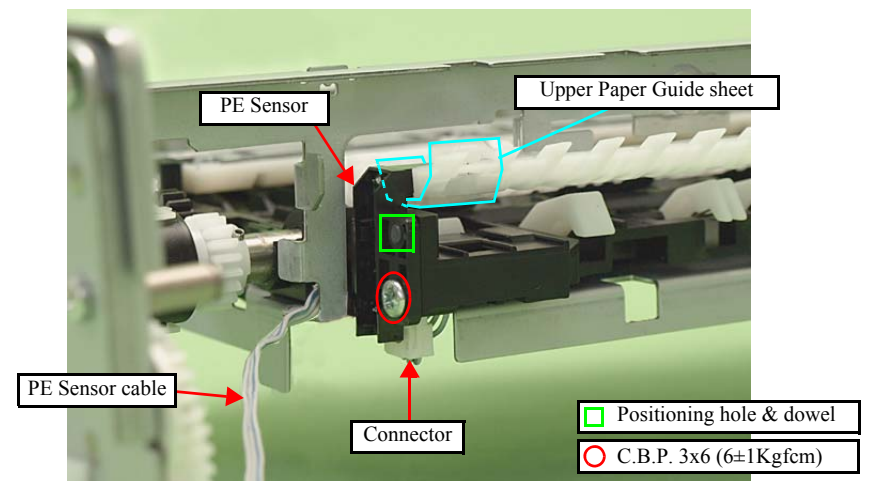
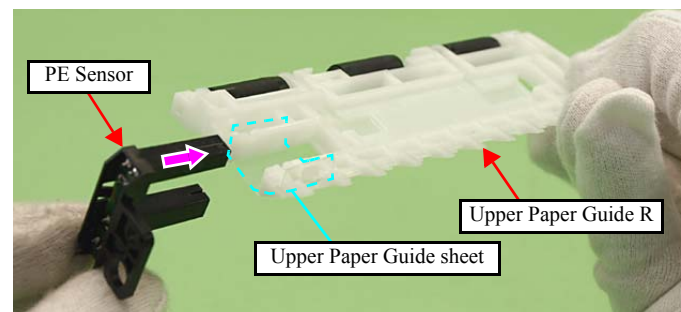

Figure 4-149. Removing the PE Sensor
Figure 4-151. Installing the PE Sensor
2. Disconnect the PE Sensor cable from the connector. (See Fig. 4-149.)
- Align the positioning hole of the PE Sensor with the dowel of the Paper Guide Front Assy. (See Fig. 4-149.)
- When installing the PE Sensor, insert the sensor with the Upper Paper Guide sheet in between. (See Fig. 4-149, Fig. 4-151.)